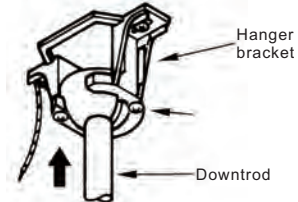

Fig.15
Step 9: Now lift motor assembly into position and place downrod ball into hanger bracket. Rotate until the check groove has dropped into the registration slot and seats firmly. Rod should not rotate if this is done correctly (Fig.15)